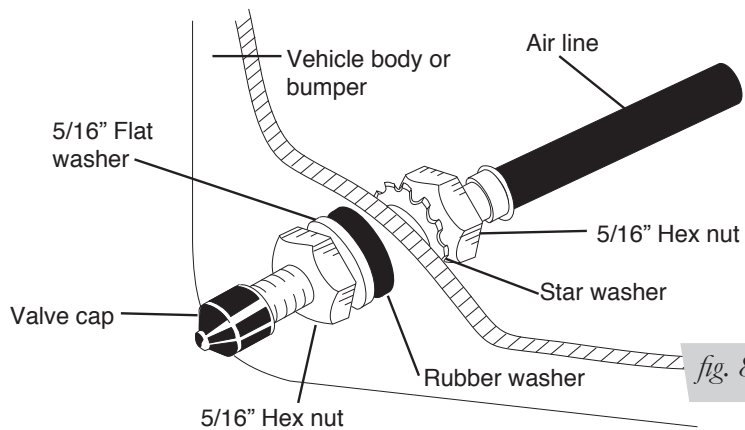

fig. 8
4. Place a 5/16" nut and star washer on the air valve. Leave enough of the inflation valve in front of the nut to extend through the hole and have room for the rubber washer, flat washer, and 5/16" nut and cap. There should be enough valve exposed after installation—approximately 1/2"— to easily apply a pressure gauge or an air chuck (fig. 8).